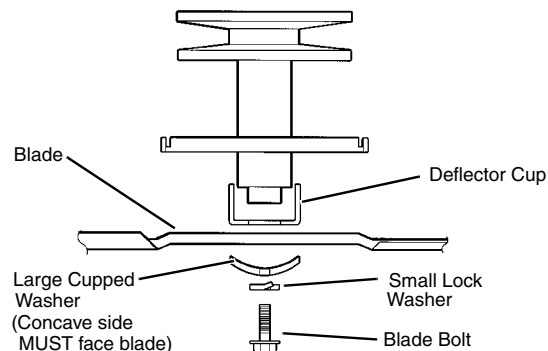

FIG. 19
- Reassemble hardware and deflector cup in exact order as shown. (See FIG. 19)